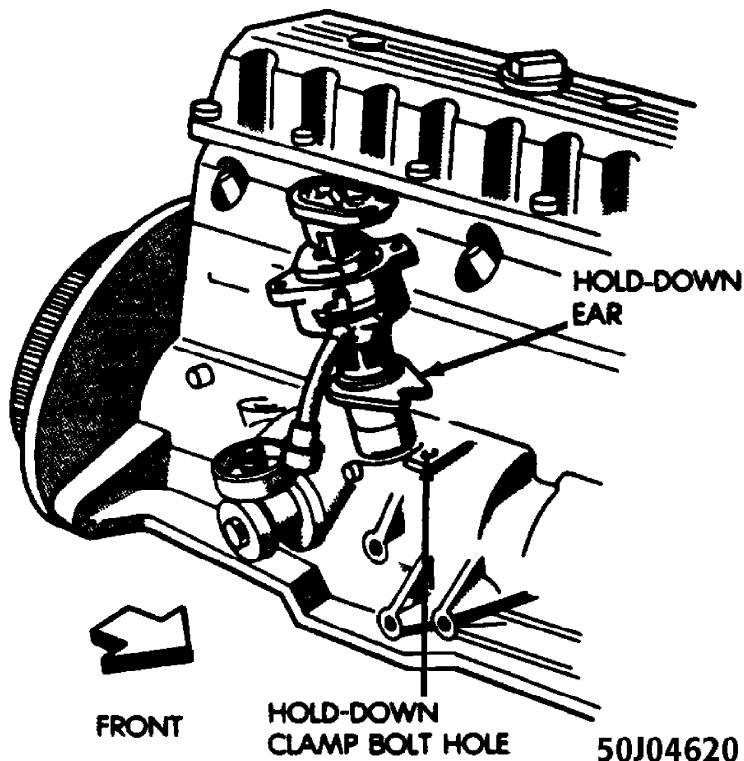

Fig. 27: Installing Distributor
4) Visually line up the hold down ear of the distributor housing with the hold down clamp hole. See Fig. 27.